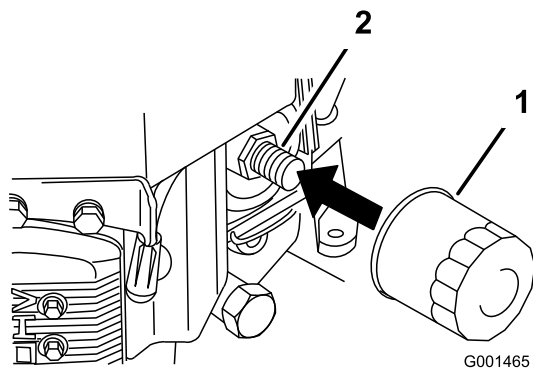

Figure 25
- Remove the old filter (Figure 25).
- Apply a thin coat of new oil to the rubber gasket on the replacement filter (Figure 25).
- Install the replacement oil filter to the filter adapter, turn the oil filter clockwise until the rubber gasket contacts the filter adapter, then tighten the filter an additional 3/4 turn (Figure 25).